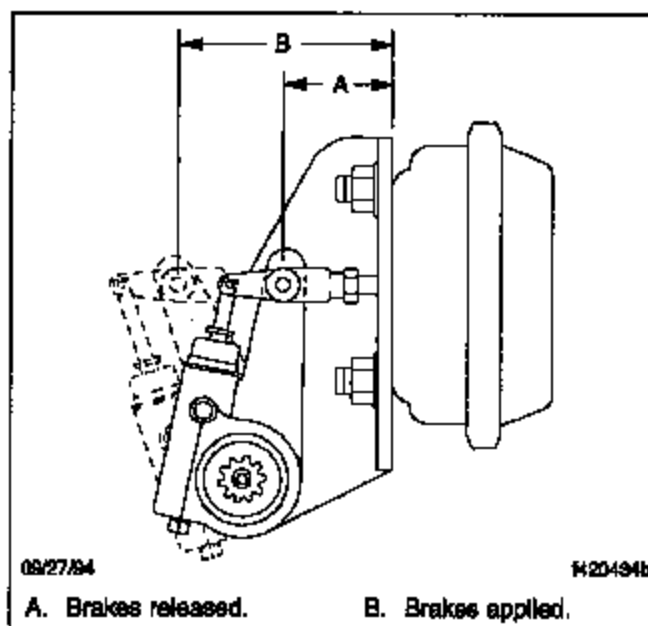

Fig. 7, Measure the Stroke
- 4.1 Measure the distance from the bottom of the brake chamber to the center of the large clevis pin. See Fig. 7, Ref. A. Record this measurement as dimension A.